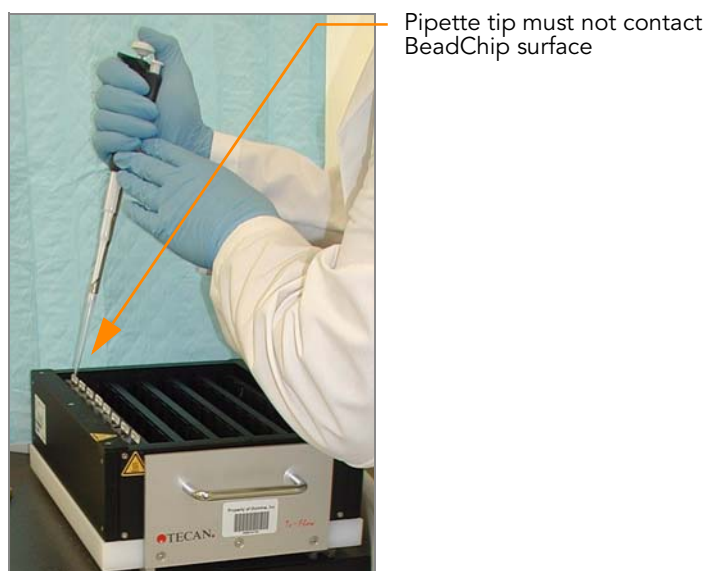

Figure 62 Dispensing RA1 into Each Flow-Through Chamber
- a. 150 µl RA1 (Figure 62). Incubate for 30 seconds. Repeat 5 times.